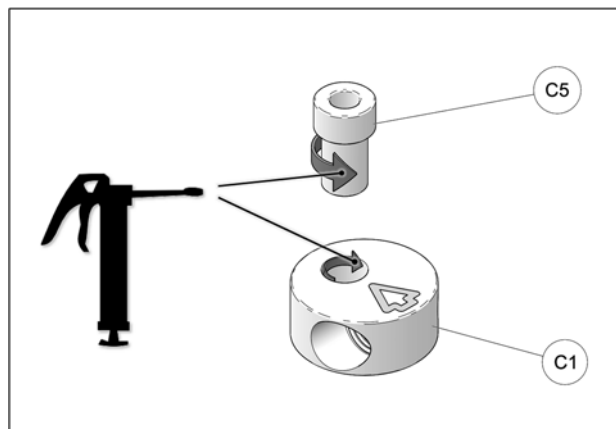

Fig. 32
15. Apply grease evenly all around step spacer bushing (C5) and in hole of aluminum disk (C1) when assembling these parts together. See Fig. 32